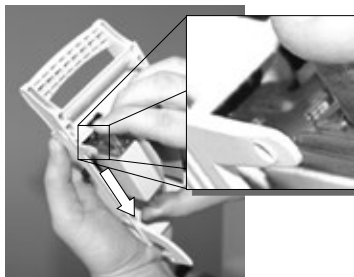

Figure 18
- Move a fuse link along the cover until the locking of fuse links is slammed (Figure 18);